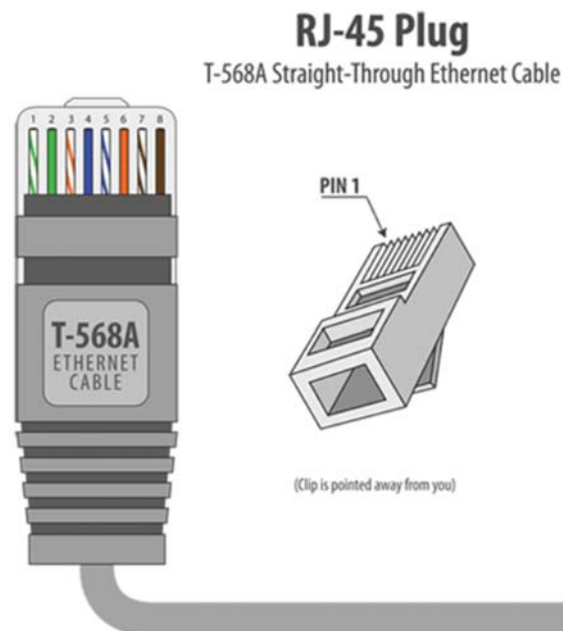

Figure 17: Wiring of the cable at the RJ45 connector (following T-568A/B specification) to be inserted in the PoE Injector.
- The RJ45 cable must be wired according to the T-568A/B specification (Figure 17).